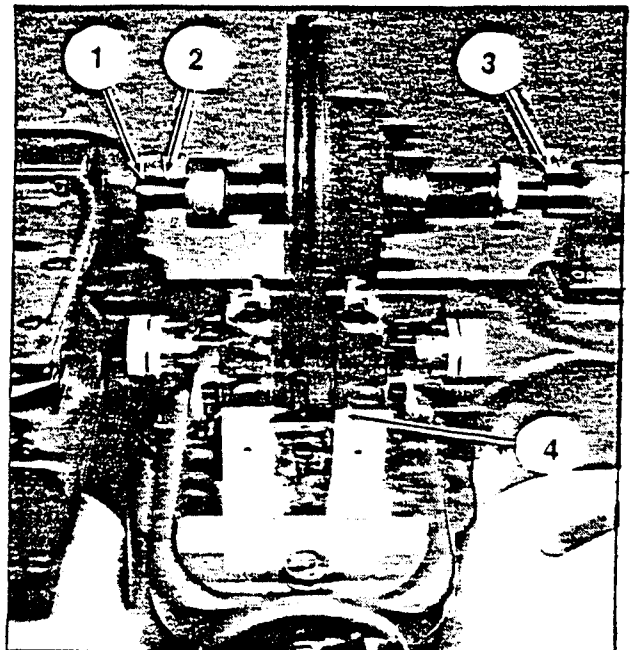

Figure 15. Rotor Aligned with Slot
5. If rotor is not in line with center of slot in tool plate, make minor adjustments to the knurled nuts on the arbor until rotor centers in tool plate slot, Figure 15.